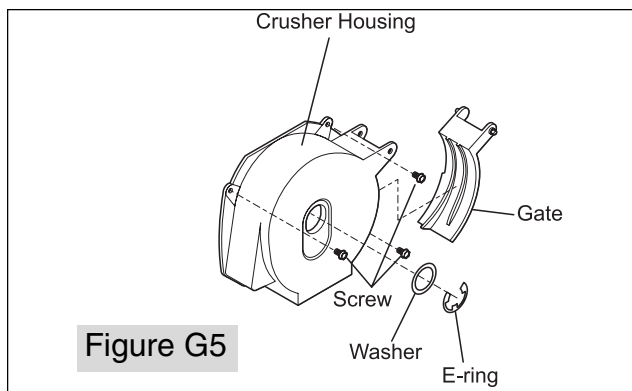

Figure G5
4. Remove three Hex head screws holding Crusher Housing to Front Plate. (See Figure G5)
5. Remove E-ring and washer on front of Crusher Housing. (See Figure G5)